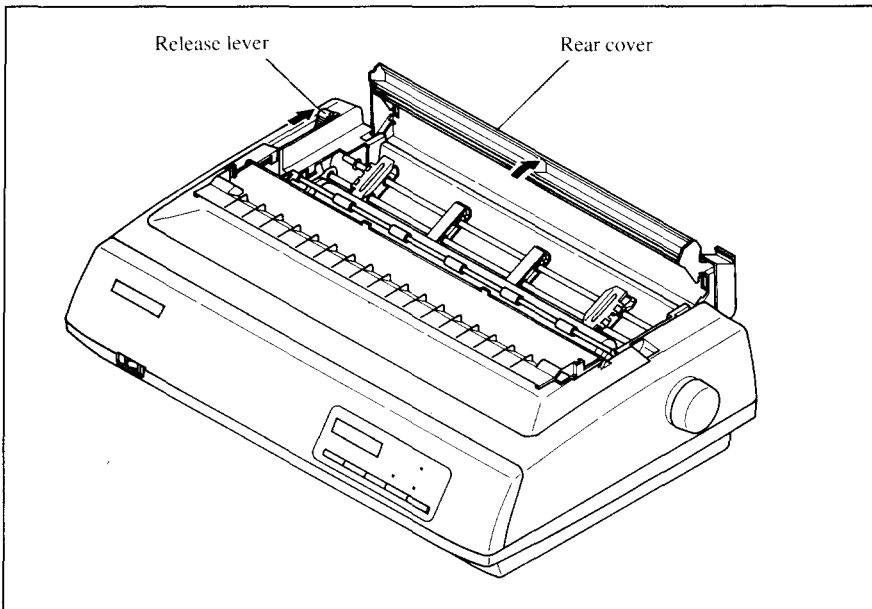

Figure 4-3. Opening the rear cover.
5. Open the transparent part of the front cover, and the rear cover using the two grips on either side, as in Figure 4-3.